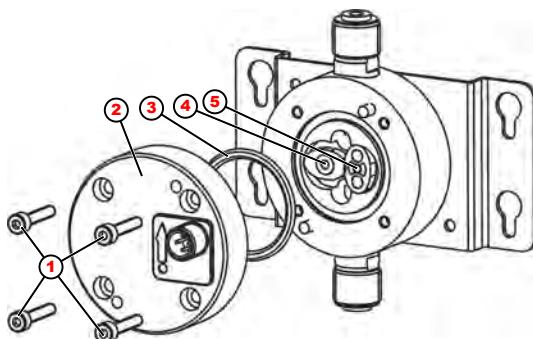

Fig. 21: Servicing
1. ➤ Unscrew the 4 screws on the oval gear meter (Fig. 21, pos. 1).
2. ➤ Remove the cover (Fig. 21, pos. 2).
3. ➤ Remove the two oval gear wheels (Fig. 21, pos. 4 + pos. 5) and clean or replace.
We strongly recommend that you replace the o-ring seal (Fig. 21, pos. 3) between the cover and housing.